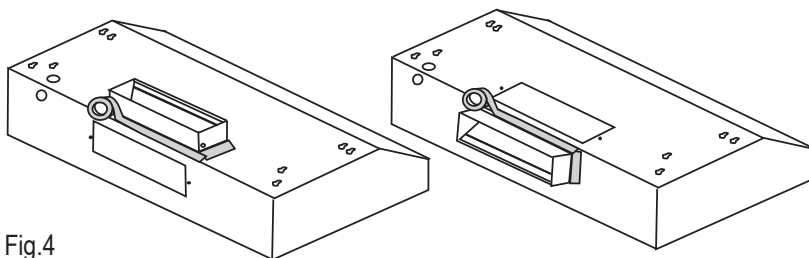

Fig.4
5. Seal the damper to the hood using duct tape (figure 4).